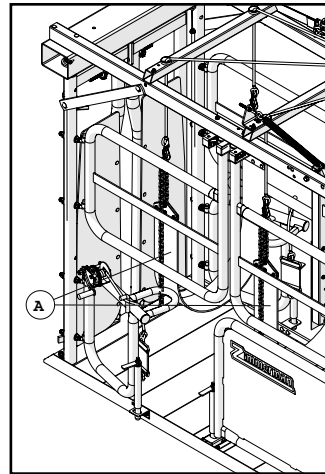

Figure 1: Belly straps
1. Be sure that the belly straps (a) are completely lowered and out of the way of the animal as it is being loaded (Figure 1). Unhook the chain from one side of the strap and lay the strap flat on the floor of the chute.